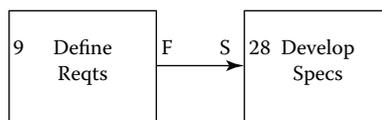

Figure 9.5 A Finish-to-Start (F-S) relationship.
1. Finish-to-Start (F-S; Figure 9.5). This relationship is the “normal relationship” and can cover 100 percent of a detailed project plan. It can define any real-life situation and therefore can be used exclusively. In Figure 9.5, interpret the F-S relationship as follows: you cannot start “Develop Specs” until “Define Reqt’s” is finished. The numbers to the left of the description constitute the unique identifier (UI).